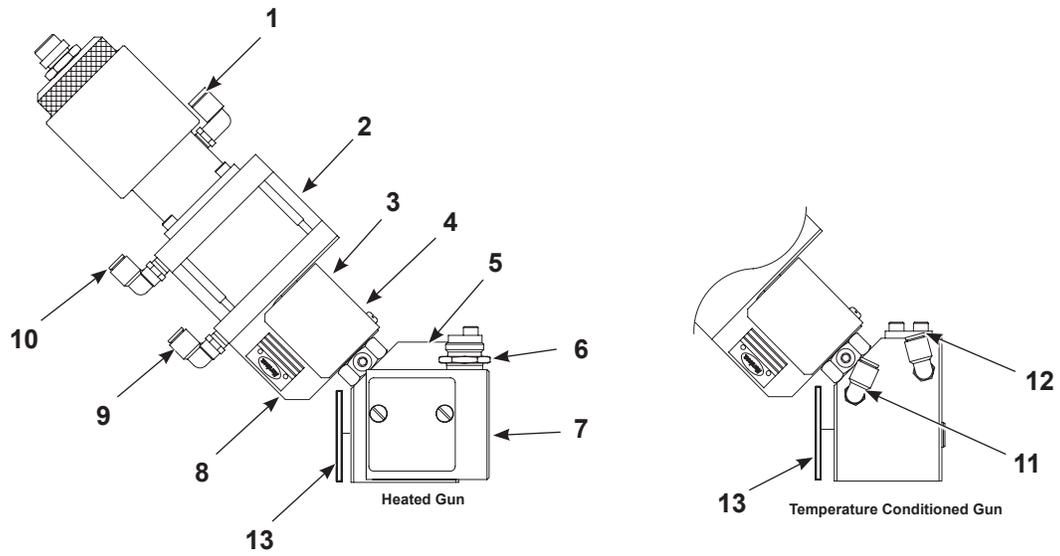
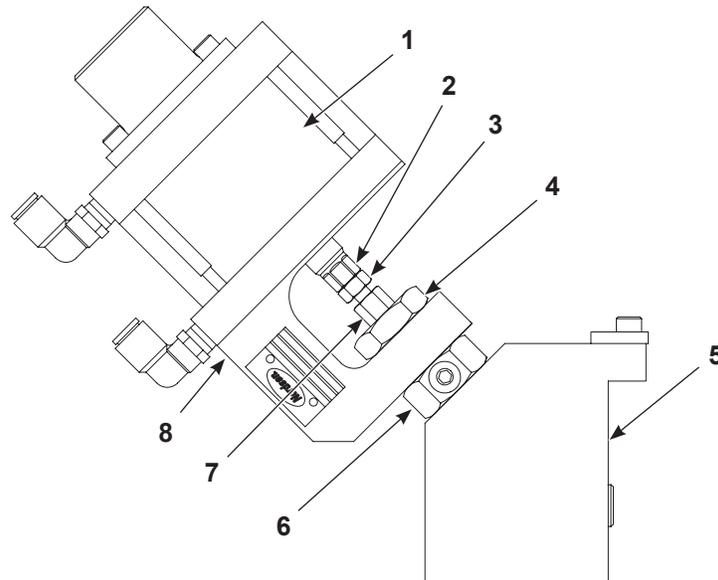
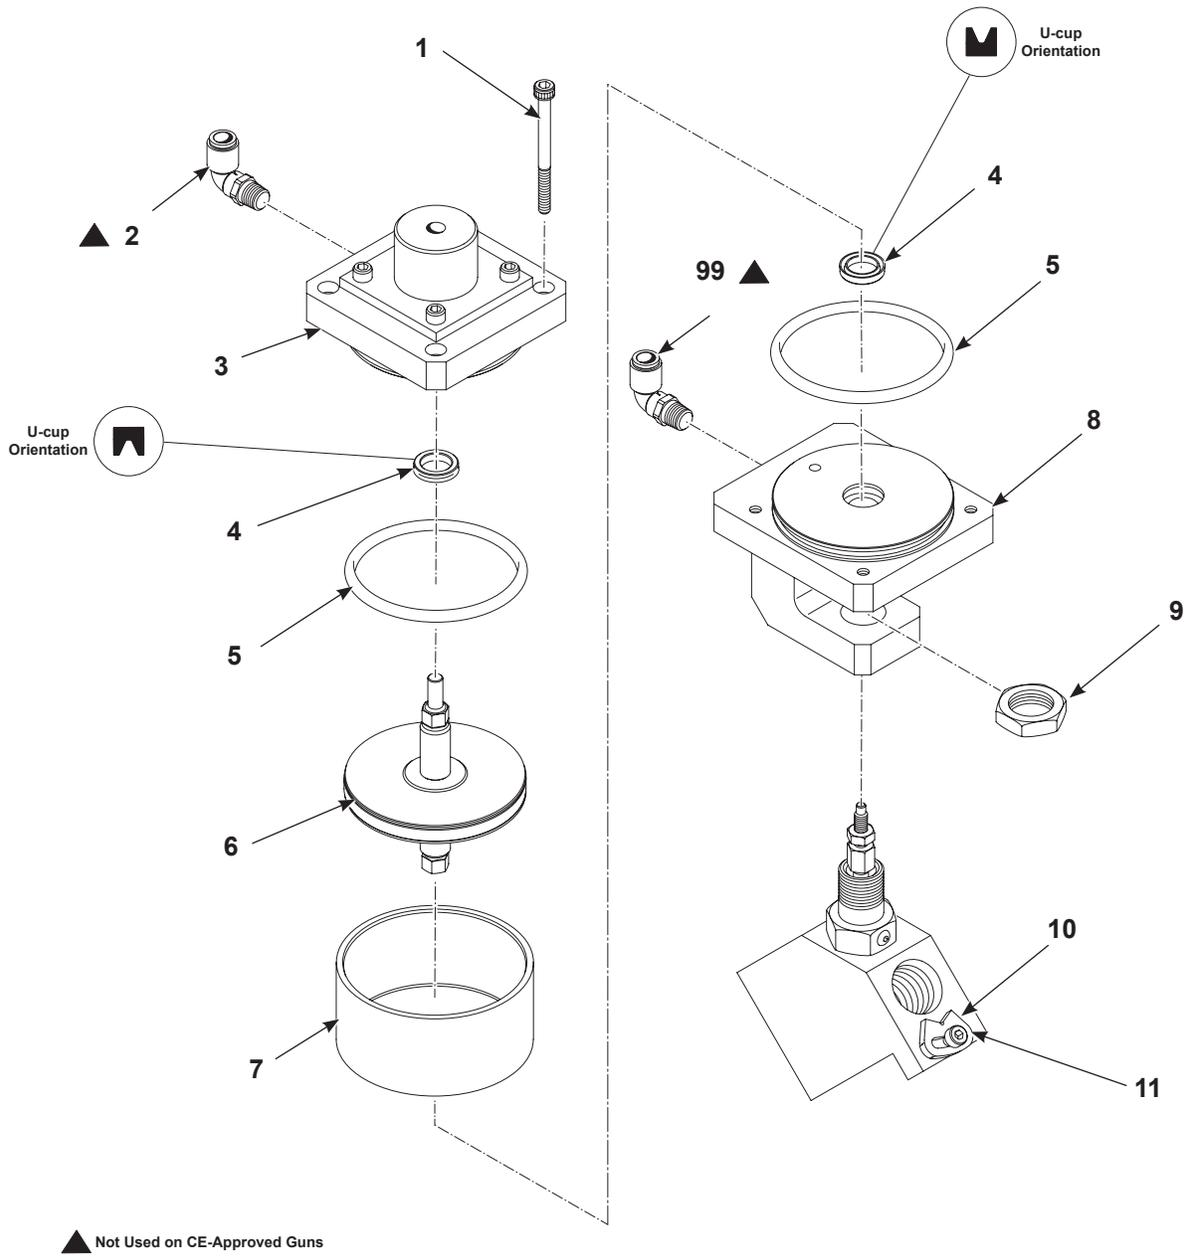

Figure 8 Removing the CE20 Gun from the Mounting Fixture (Typical)
Figure 9 Bonnet Replacement (Typical)
Figure 10 Replacing the Air Cylinder Piston
2. See Figure 8. Disconnect the material supply hose from the material inlet port (5).
3. Disconnect the air lines from the gun-open air port fitting (9) and gun-closed air port fitting (10) on the air cylinder (2).
4. If used, disconnect the air line from the spring closure fitting (1).
5. For guns with a heater module (7), disconnect the heater cable from the heater connection (6).
6. For temperature conditioning applications, disconnect the coolant hoses from the temperature conditioning inlet (11) and outlet (12) ports.
**CAUTION:** For heated CE20 guns, avoid misplacing the insulator (13) when removing the gun from the mounting surface.
9. Remove the screw (4) from the yoke (8).
10. Remove the guard (3).
2. See Figure 8. Remove the screw (4) from the yoke (8). Remove the guard (3).
3. See Figure 9. Hold the air shaft hex (2) with a 10-mm wrench and loosen the jam nut (3) with a second 10-mm wrench.
4. Using a 1-in. open-end wrench, unscrew the retaining nut (4) that holds the yoke (8) onto the bonnet and body and seat (5) assembly.
5. Hold the air shaft hex with a 10-mm wrench and apply a second 10-mm wrench to the coupler nut (7). Unscrew the coupler nut until the air cylinder assembly frees itself from the body and seat.
7. Holding the bonnet hex (6) with a 1-in. open-end wrench, unscrew the bonnet from the body and seat.
1. See Figure 9. Coat the new bonnet O-ring and threads with PTFE grease and thread it into the body and seat (5).
3. Lower the air cylinder (1) with the retaining nut (4) held in place toward the body and seat, inserting the yoke (8) over the bonnet hex (6) and stem.
4. Holding the coupler nut (7) in place, finger-tighten the retaining nut onto the bonnet.
5. Using the coupler nut, screw the bonnet stem up into the air cylinder shaft at the air shaft hex (2) until the bonnet stem bottoms out. Do not overtighten using the coupler nut.
6. Using a 10-mm wrench to hold the air shaft hex, tighten the jam nut (3) into the air shaft hex using a second 10-mm wrench. Tighten the jam nut to 9 N•m (80 in.-lb).
9. See Figure 8. Once you have completed any service or repair activities, replace the guard (3). Coat the screw (4) with Loctite 242 and fasten the guard to the yoke (8).
4. See Figure 10. Using a 4-mm hex key, remove the four socket head screws (1) from the upper cylinder head (3).
5. Separate the upper cylinder head from the yoke/lower cylinder head (8).
6. Remove the cylinder sleeve (7) and the piston/shaft assembly (6).
8. Remove the lipseals (4) from the grooves inside the upper and lower cylinder heads.
9. Remove the cylinder head O-rings (5).
1. See Figure 10. Lubricate new lipseals (4) with Magnalube-G and install them as shown.
2. Lubricate and install two new cylinder head O-rings (5).
3. Lubricate the inside diameter of the cylinder sleeve (7) and the outer blue seal of the piston/shaft assembly (6).
5. Install the female-threaded end of the piston shaft into the yoke/lower cylinder head (8). Snap the cylinder sleeve onto the yoke.
6. Snap the upper cylinder head (3), O-ring side down, onto the cylinder sleeve.
7. Line up the upper cylinder head and lower cylinder heads squarely, so that the air fittings (2) are lined up.